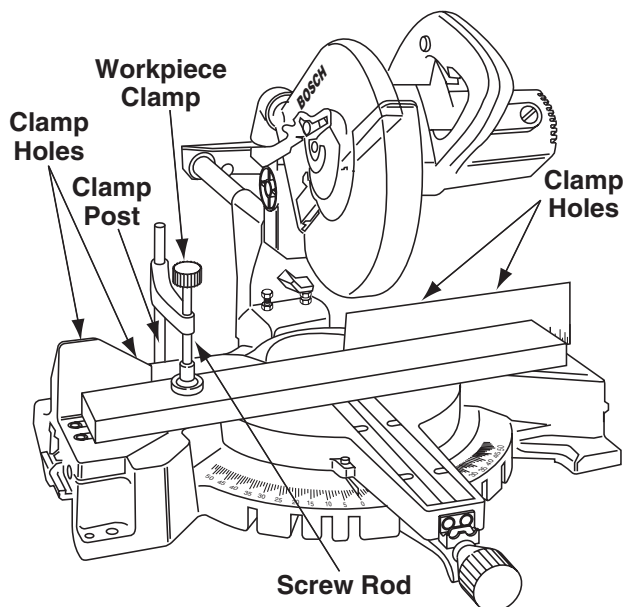

Figure 20. Workpiece Clamp
Workpiece Clamp - This clamp easily secures a workpiece in any of four (4) clamp holes behind the fence (Figure 20).